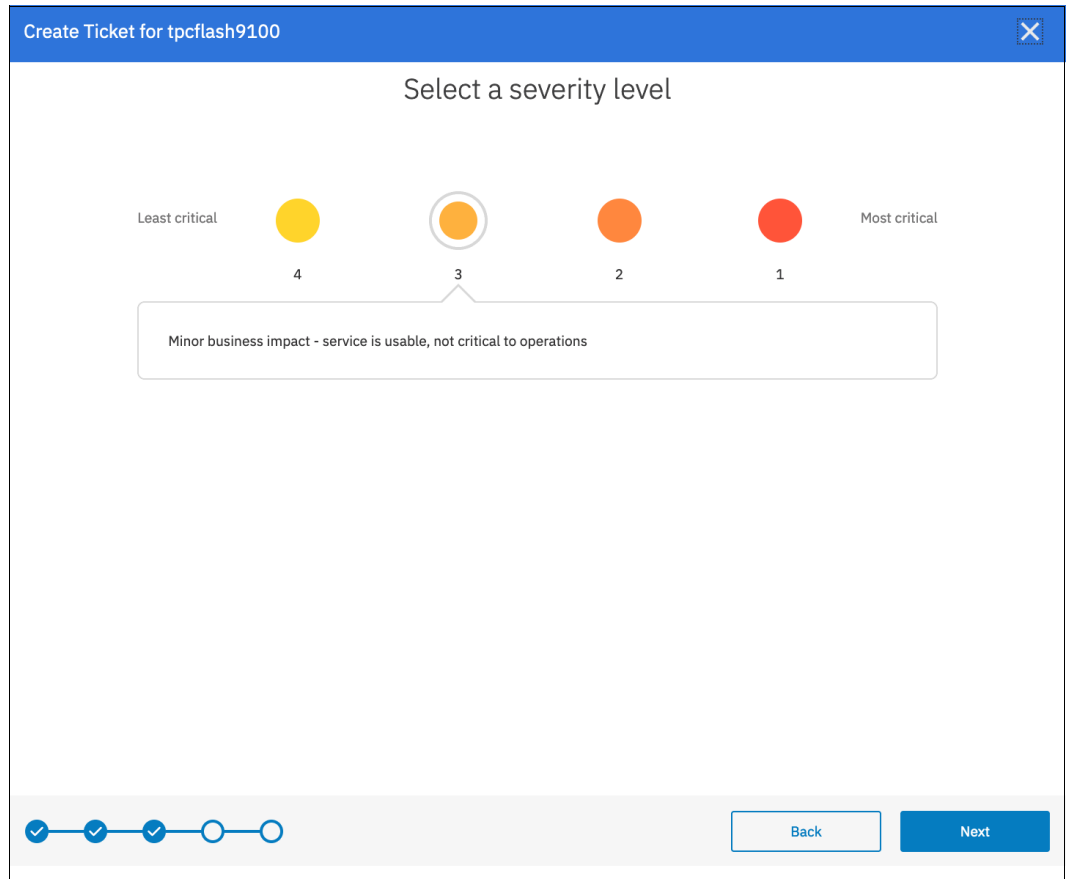

Figure 5-15 Selecting a Severity Level window
4. You can select a severity for the ticket. Examples of what severity you should select are shown in Figure 5-15. Because in our example there are storage ports offline with no impact, we select **severity 3** because there is only minor impact if any.